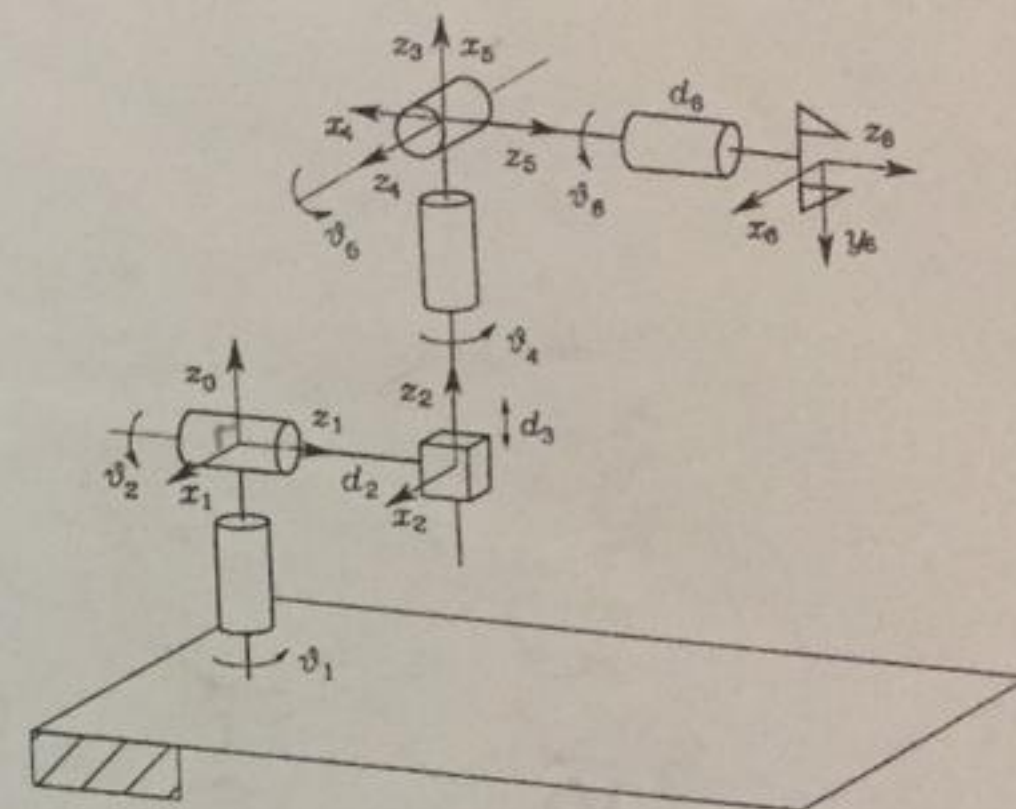

Figure 2: Q2
- For the stanford manipulator shown in Fig. 2, derive the forward kinematic equations using the DH-convention